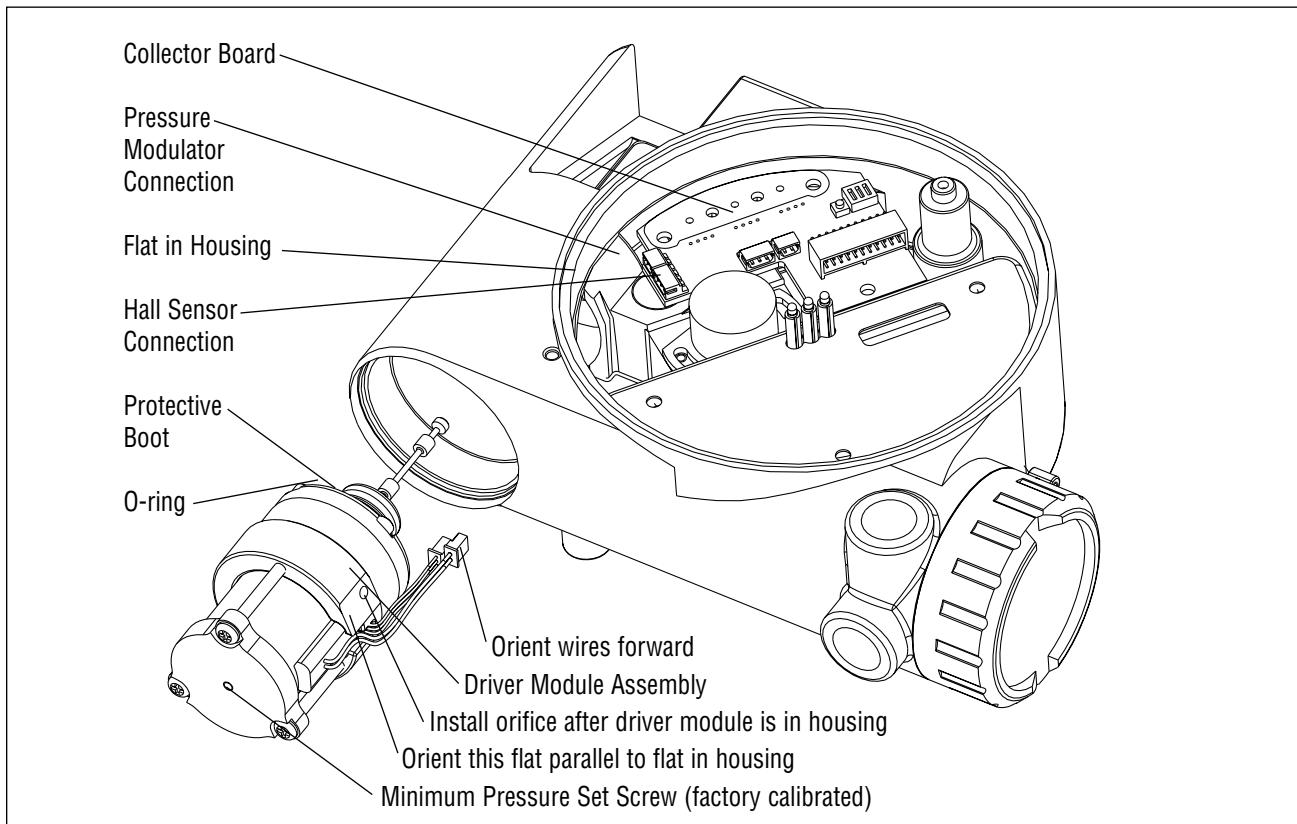

Figure 9: Driver Module Assembly
11. Take the new driver module, and verify that the O-ring and boot are in place. Lay the wires back and along the modulator as shown in Figure 9, and hold in place by hand.